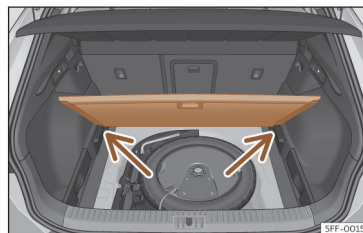

Fig. 190 Variable boot floor: tilted position.
- Rest the floor on its housings >>> Fig. 190 (arrows).